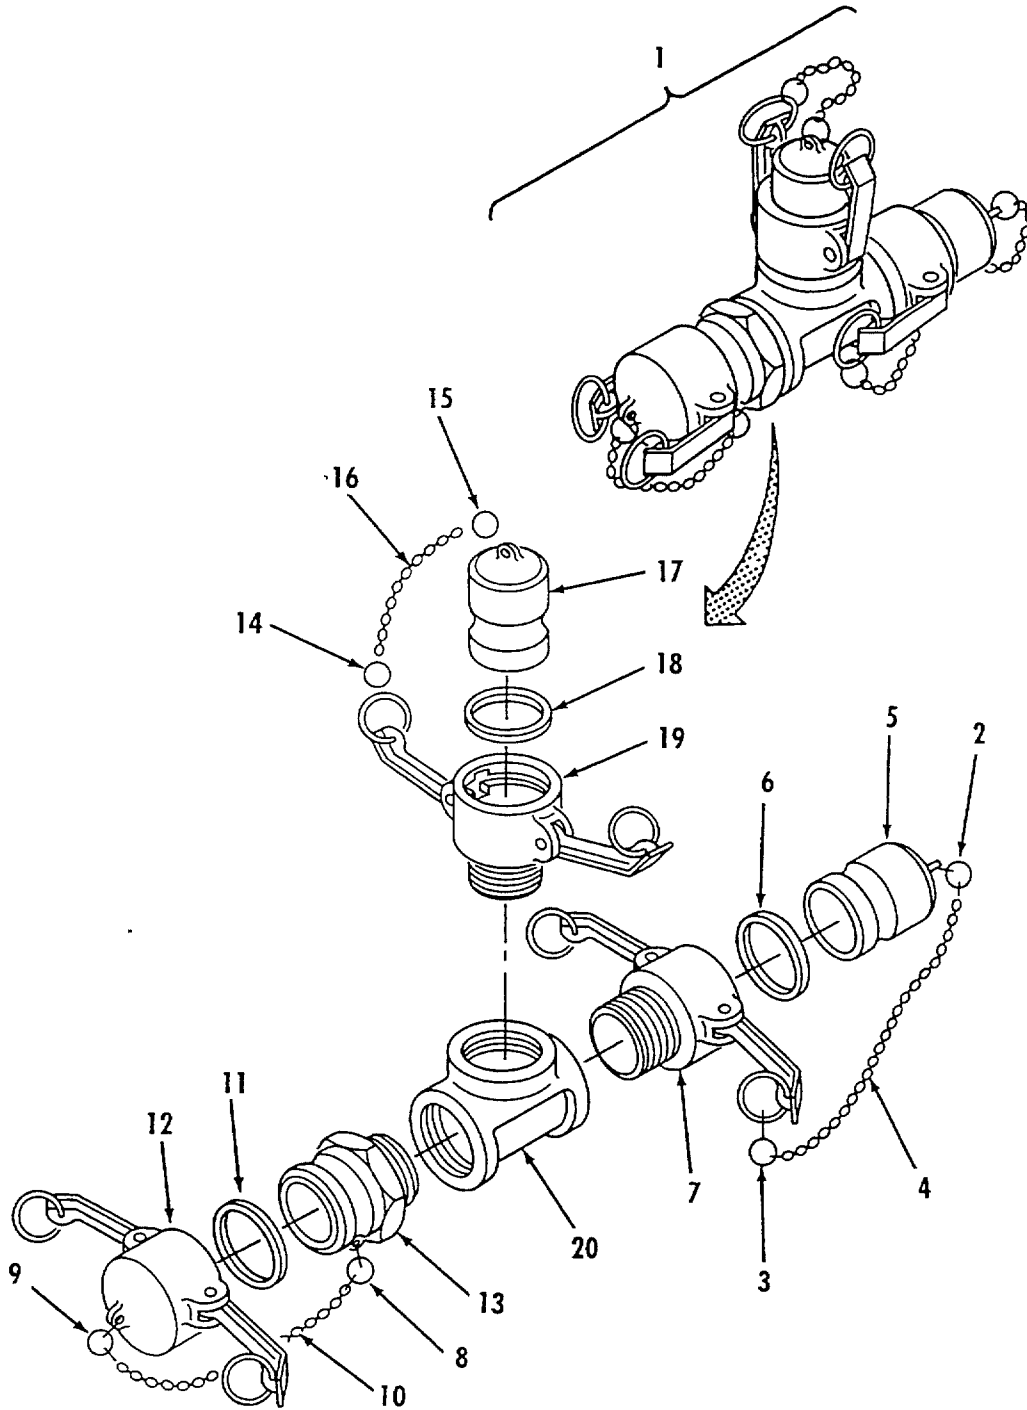

Figure 4-20. Tee Assembly Repair.
- a. Disassembly. Refer to figure 4-20.
c. Repair. Replace damaged or defective parts and all sealing components.d. Assembly. Refer to figure 4-20.**CAUTIONS**
- (1) Apply thread sealant to male threads of all components.
- (2) Install female coupling half (19) on tee (20).
- (3) Install gasket (18) in female coupling half (19).
- (4) Install dust plug (17) in female coupling half (19).
- (5) Install split rings (14 and 15) and chain (16).
- (6) Install male coupling half (13) on tee (20).
- (7) Install gasket (11) in dust cap (12).
- (8) Install dust cap (12) on male coupling half (13).